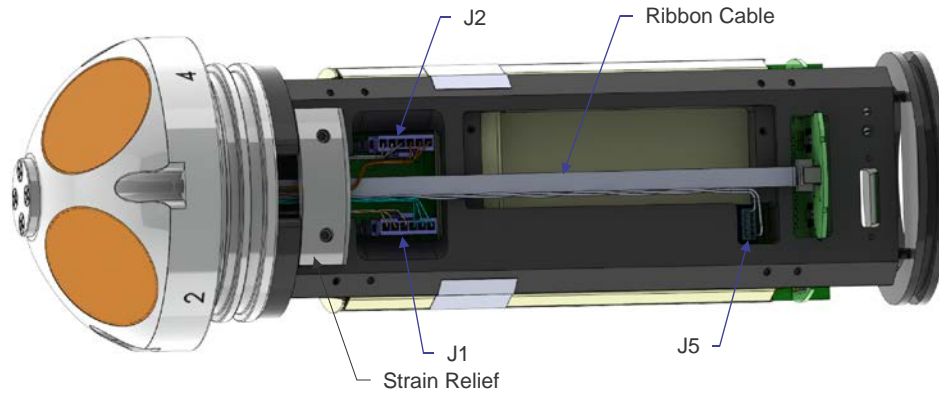

Figure 42. Electronics Chassis Cables
Use caution when placing the board stack on the chassis. Do not hit or bend the connector on the bottom of the DVS Phase II personality module (see Figure 42).
9. Connect the ribbon cable to the Personality Module (Figure 42). Check that the J1 and J2 cables are fully seated.